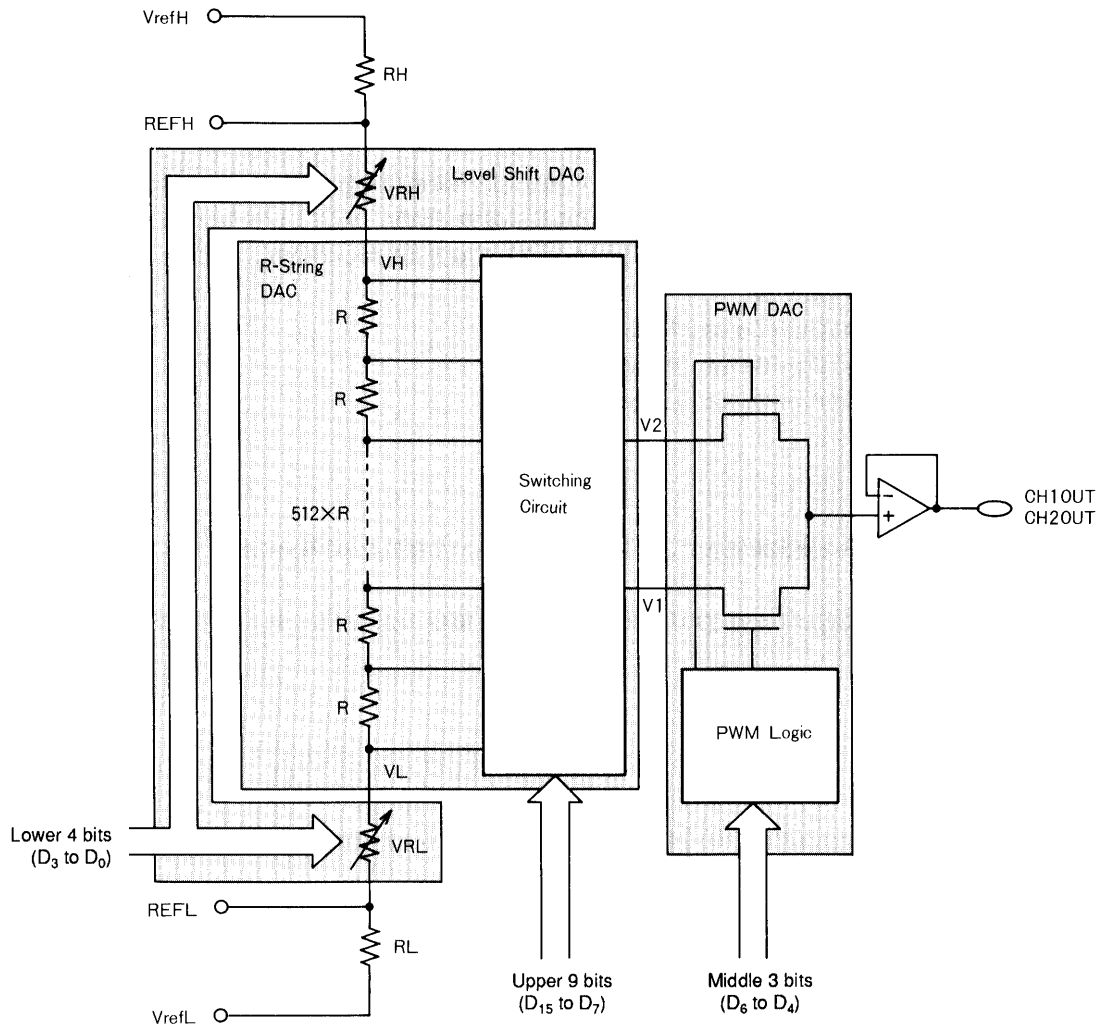

Figure 1 D/A Conversion Technique Used in the LC78816MB and 78816MC
(2) Converter operation (See Figure 1.)
V_{ref} pins (See Figure 1.)